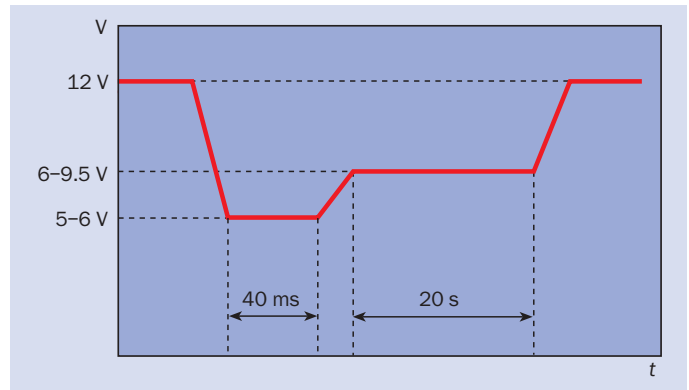

Fig. 2. A typical "cold cranking" test wave shape (12V system).
A typical "cold cranking" test wave shape is depicted in figure 2. Some automotive standards (2) are less explicit about the cranking wave shape. However, it is a common understanding that a normal operating voltage condition always precedes the cranking transient.